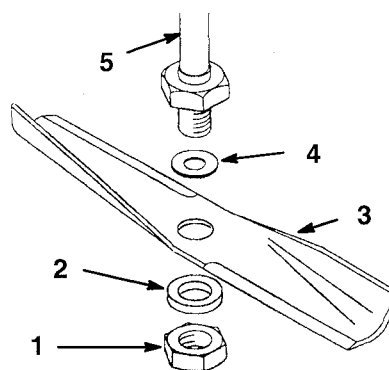

Figure 22
1. Install the washer, blade, flat washer, and the blade nut (Fig. 22).